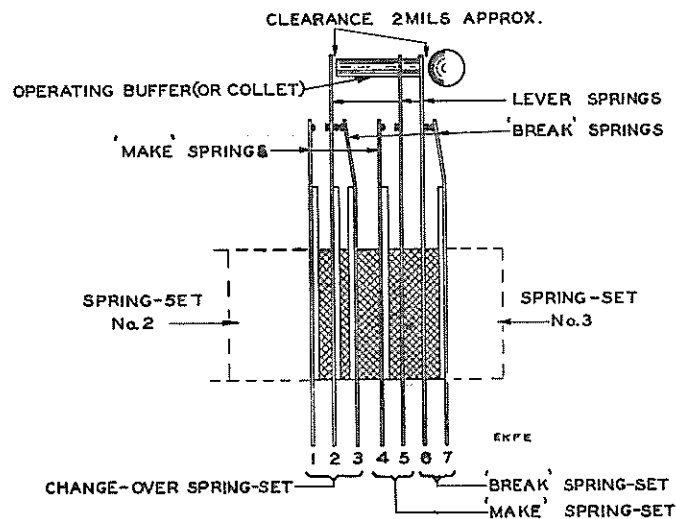

FIG. 2. SPRING-SET NO. 1 PREPAYMENT COIN-BOX MECHANISM
* 11. *Break spring-sets.* (See Figs. 2 and 3).
13. Change-over spring-sets. (See Figs. 2 and 3)